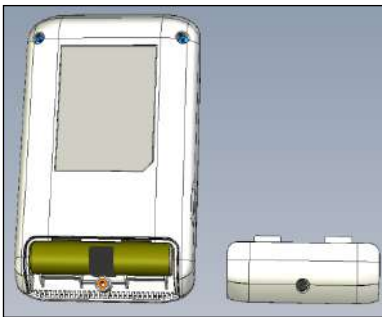
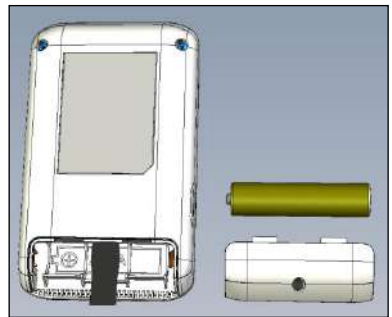

Fig. 1a
Fig. 1b
- 5.2.1. To install/replace the battery, unscrew and remove the battery compartment cover on the back of the device (Fig. 1a). Remove the old battery (if one is present) using the built-in cloth strip; insert the new battery following polarity indications marked inside the battery compartment, (Fig. 1b), replace cover and tighten screw.